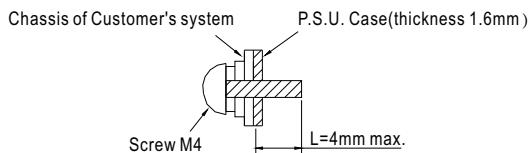

Figure 7-1. Mounting Screw
- ◎ The length L of the mounting screw must be less than 4mm when measured from the case of the NMP, as shown in Figure 7-1.